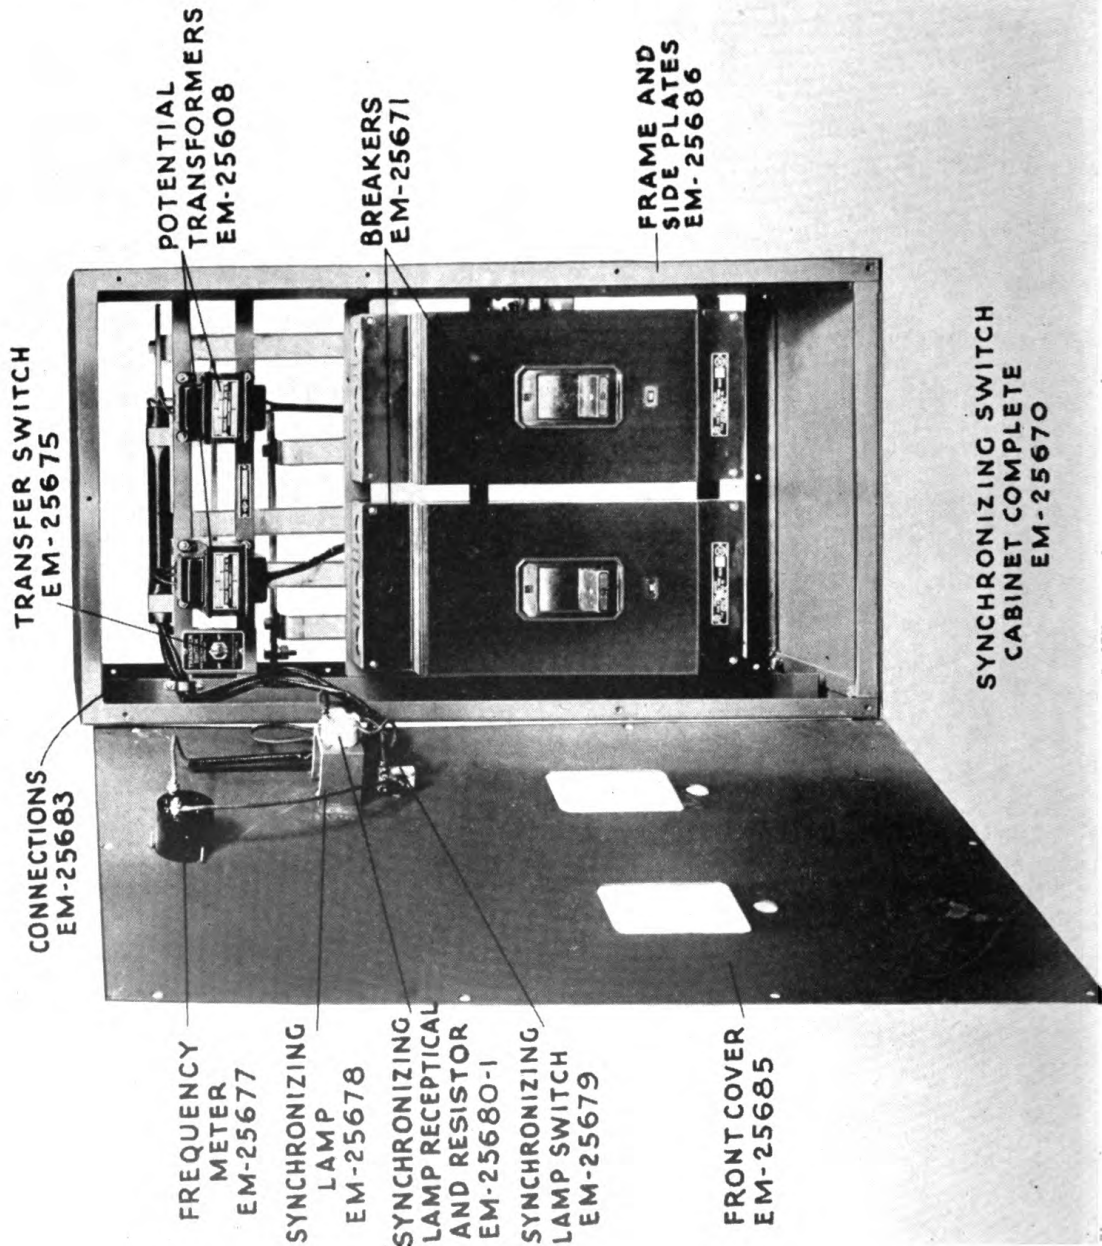

FIG. 23—Synchronizing Switch Cabinet Complete
- Figure 23 Synchronizing switch cabinet complete.